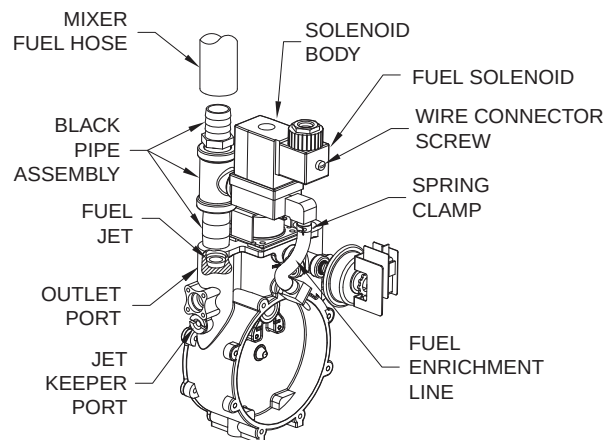

Figure 1. Reconfigure the Fuel System
2. Remove the mixer fuel hose from the outlet port of the demand regulator (see Figure 1).
5. Remove the black pipe assembly from the outlet port of the demand regulator. The solenoid assembly may need to be removed before performing this operation (Figure 1).